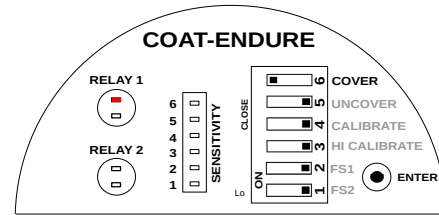

Figure 17: Cover Switch Position
- Set the COVER switch to CLOSE (Opposite of OPEN in a DIP switch) position as shown in Figure 17.